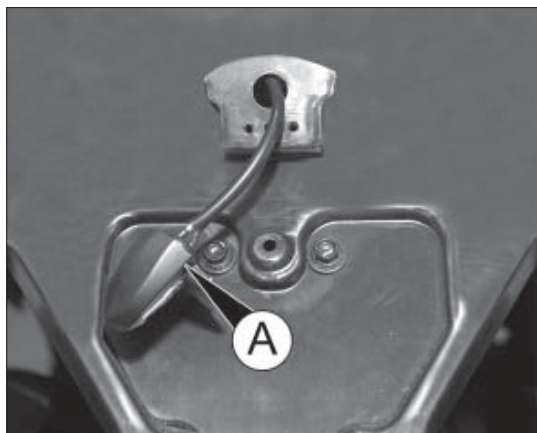

fig. 6
- remove the complete bulb-bulb holder assembly A fig. 6 from the plastic cover;
- install the bulb-bulb holder assembly A fig. 6 inside the plastic cover;